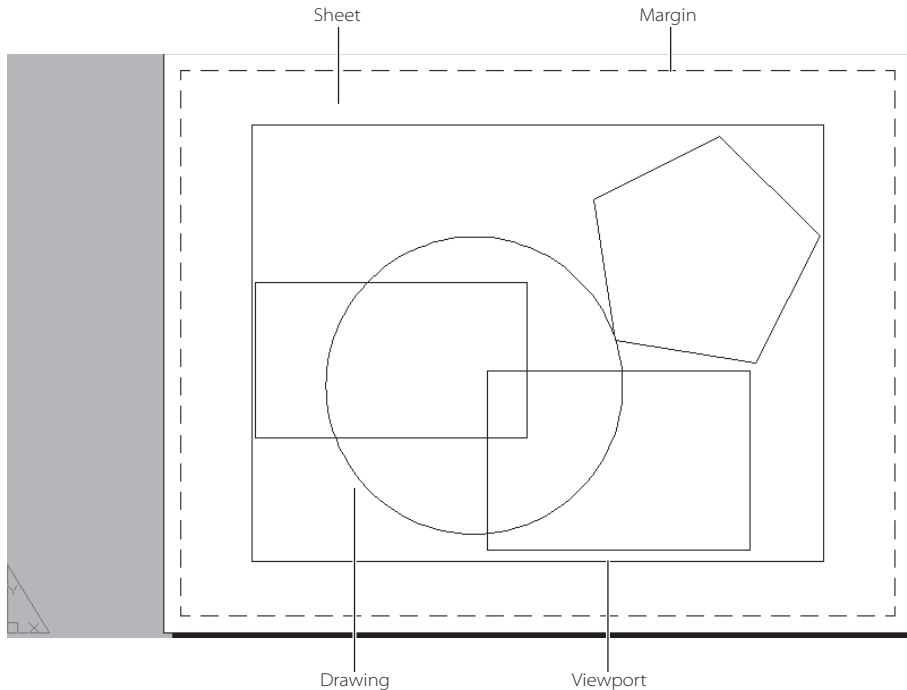

Figure 12.1
2. Click the Layout1 tool in the status bar. This opens a layout view of your drawing. You'll see your objects appear within a rectangle, which itself is inside a white rectangular area, as shown in Figure 12.1.